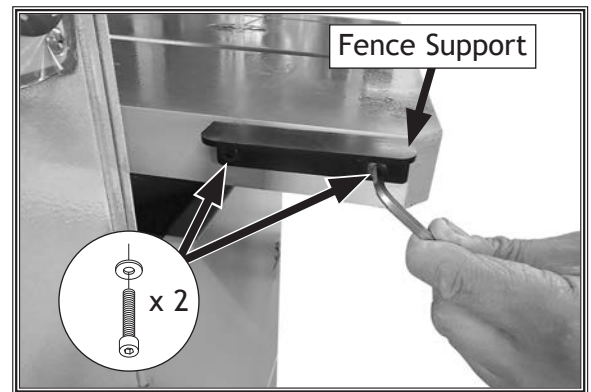

Figure 24. Installing fence support.
8. Install fence support using (2) M6-1 x 12 cap screws and (2) 6mm flat washers (see Figure 24).